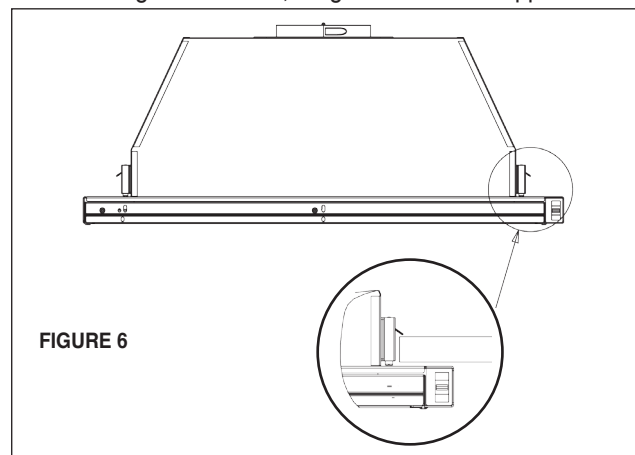

FIGURE 6
3. The rangehood mounts to the cabinet by two spring loaded brackets, one on each side of the rangehood (**FIGURE 6**). Lift the rangehood into the cutout opening in the cabinet. Be careful not to damage the cabinet, rangehood or other appliances.